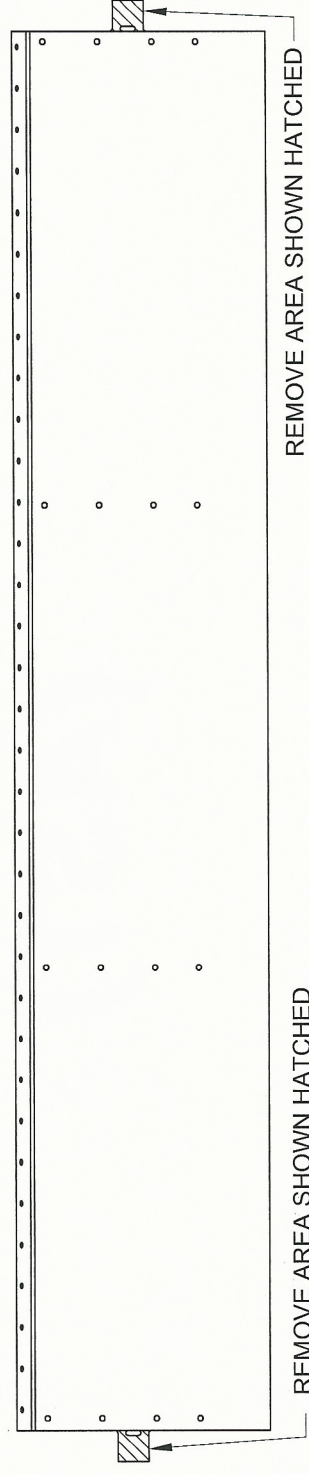

FIGURE 1:
Step 2: Remove the material shown hatched from the bottom half of the HS-1221-L AST Skin as shown in Figure 1.